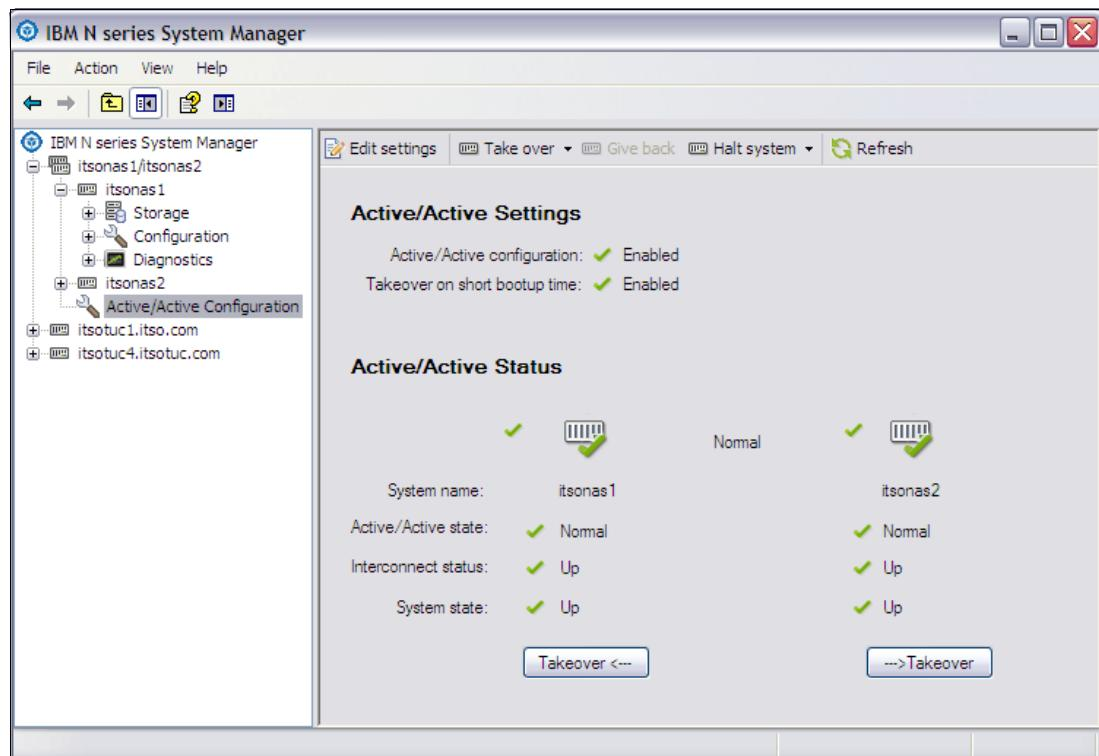

Figure 7-6 System Manager initiating takeover
1. As illustrated in Figure 7-6, you can perform the takeover by using System Manager and clicking **Active/Active Configuration** → **Takeover**.